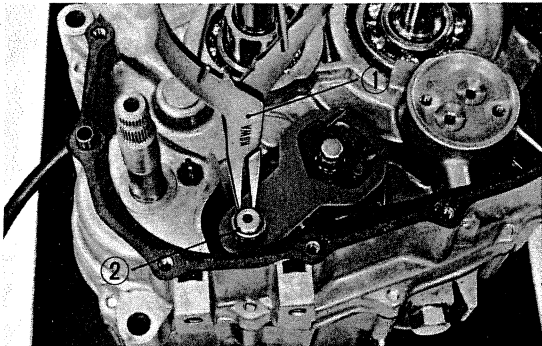

Fig. 72 Circlip removal
① Boss ② Return spring
- 3) By removing the circlip, the spring and gear shift plate can be disassembled. (Fig. 72)